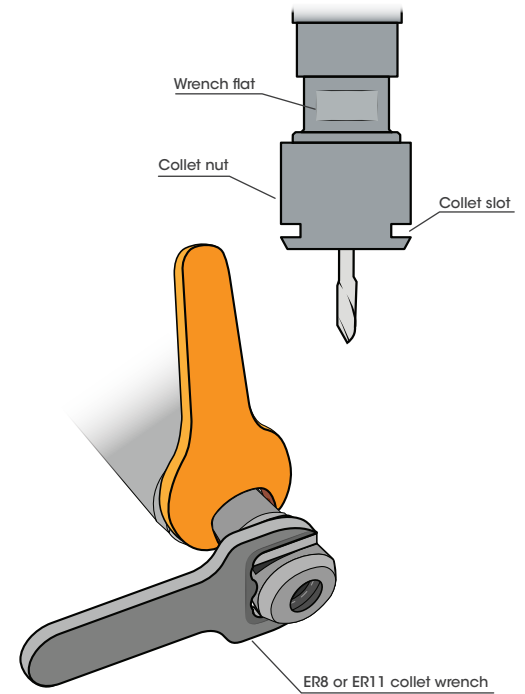

Figure 7: Correct insertion of both the wrench and the ER8 or ER11 collet wrench to remove or secure the collet nut.
2. Take the ER8 or ER11 collet wrench included with your Air Turbine Live Tool® and apply it on the collet slot as shown in **figure 7**. Turn the wrench counterclockwise to release the current cutting tool.
7. Insert the collet wrench into the collet nut and turn it clockwise as shown in **figure 7** to ensure the new collet and cutting tool is firmly held.